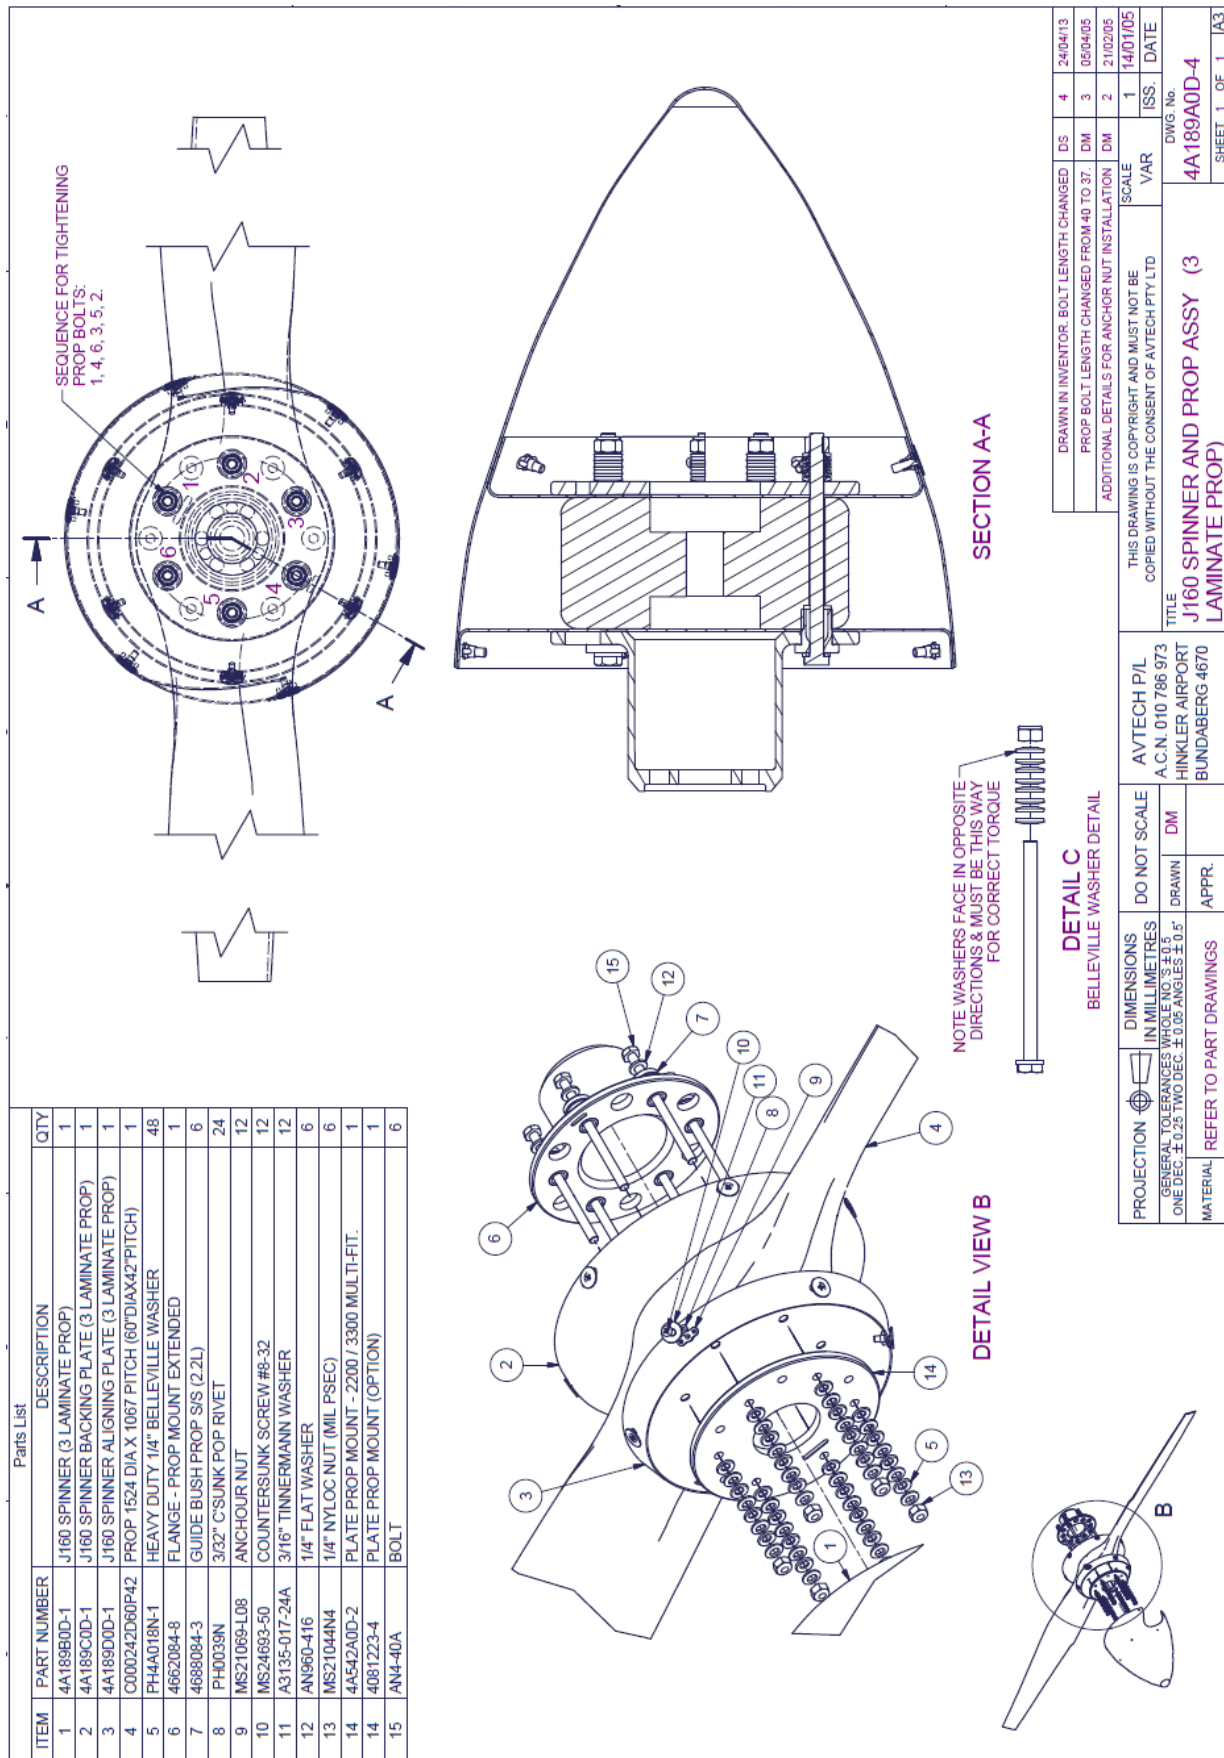

Figure 188 – Wooden Propeller Installation (all J-Series)
- Refer to Figure 188 for the installation of Jabiru Wooden and Sensenich wooden propellers.
- Bolts should be installed to the torque setting prescribed in Table 9-4 using diagonal tightening sequence as shown in Figure 188.